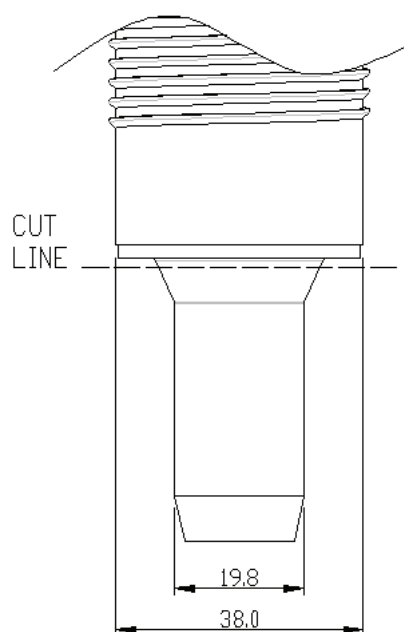
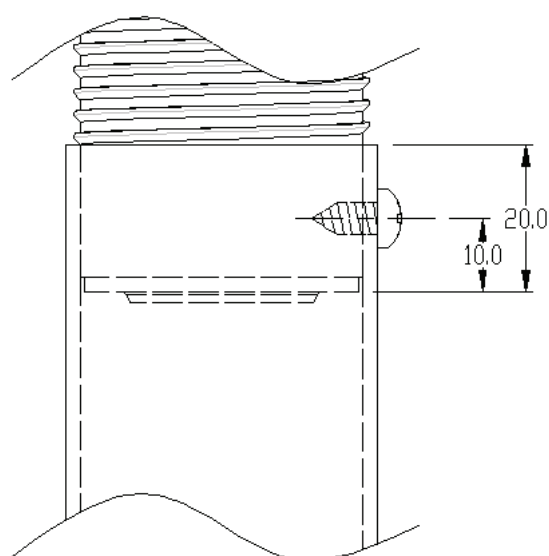

FIGURE 1
FIGURE 2
- Option one is for a small diameter pipe to be fitted over the Ø19.8mm spigot detailed in Figure 1.
- Option two is for a larger diameter pipe and prior to connection, the snorkel outlet **MUST BE** modified by cutting and de-burring at the "CUT LINE" shown in Figure 1. Once complete, slide on the large diameter pipe, drill a pilot hole Ø3mm and secure with a 8gx3/8 stainless steel screw as shown in Figure 2.